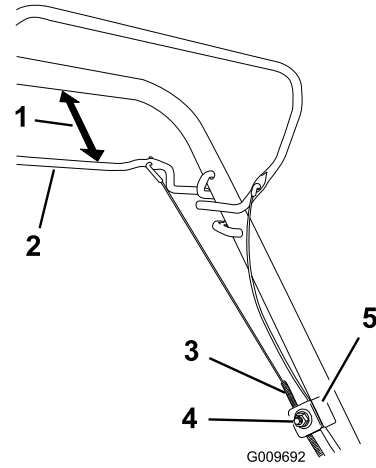

Figure 24
1. Loosen the cable support nut (Figure 24).
2. Hold the self-propel bail 1 to 1-1/2 inches (25 to 38 mm) from the handle (Figure 24).
3. Pull down the cable jacket (toward the mower) until there is no slack in the cable (Figure 24).